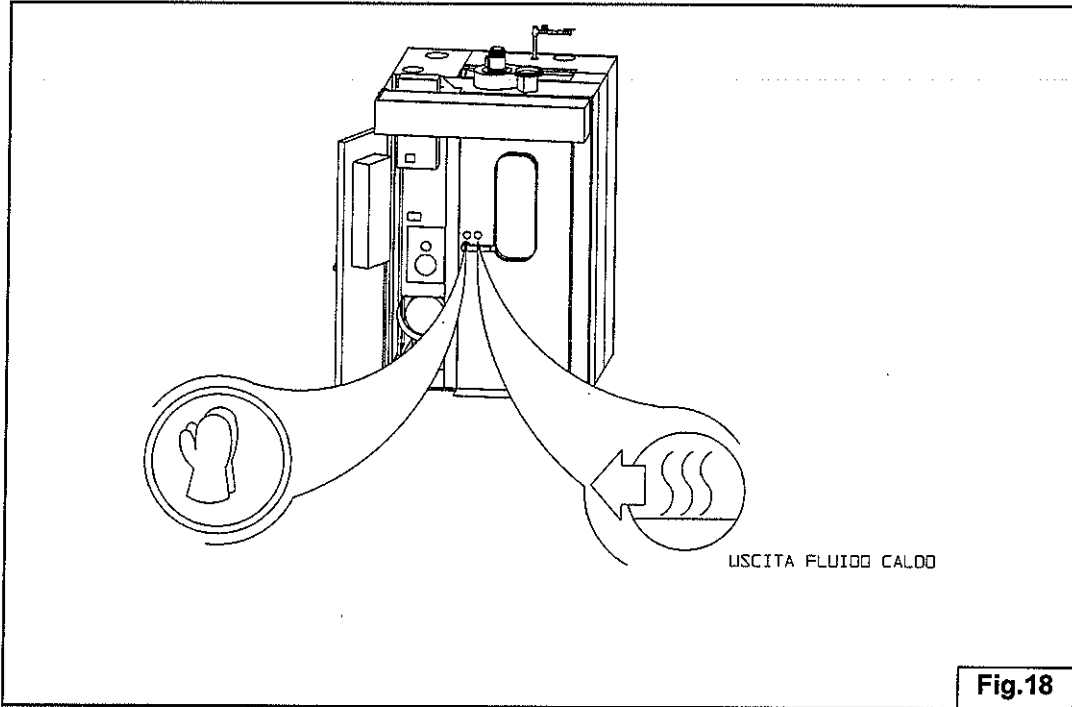

Fig.18
- Fasten the ID plate and warning signals as shown in **Fig. 18 - 19**.